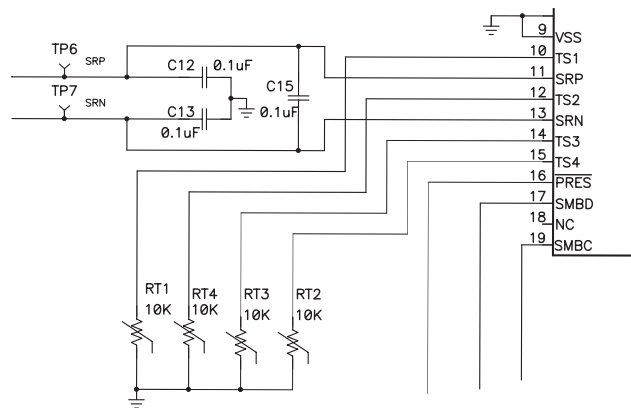

Figure 19. Thermistor Drive
For the bq3050 device, TS1 and TS2 provide thermistor drive-under program control (Figure 19). Each pin can be enabled with an integrated 18-kΩ (typical) linearization pullup resistor to support the use of a 10-kΩ at 25°C (103) NTC external thermistor, such as a Mitsubishi BN35-3H103. The reference design includes two 10-kΩ thermistors: RT1 and RT2.